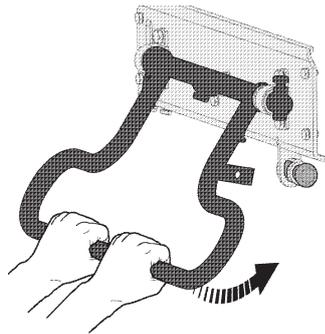

Fig. S4: Locking the shut down yoke
- ➔ Use both hands to press the shut down yoke downwards until it visually locks into place (Fig. S4).